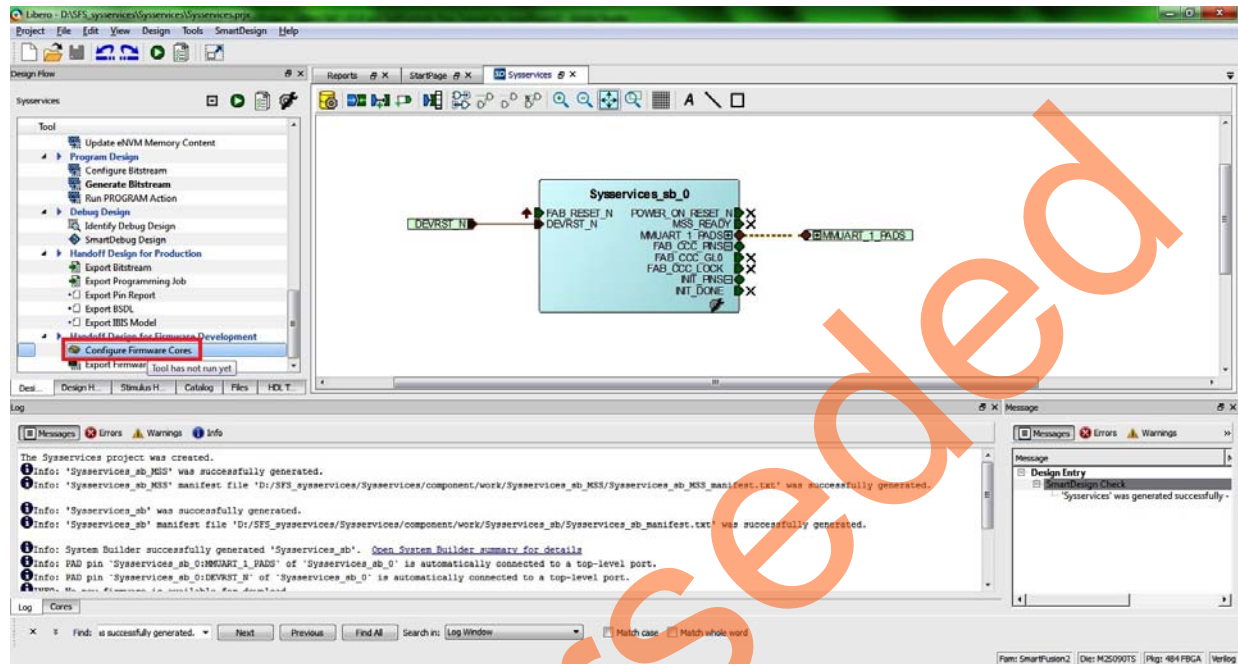

Figure 13 • Opening DESIGN\_FIRMWARE Window
1. In the **Design Flow** tab, double-click on **Configure Firmware Cores** under **Handoff design for Firmware Development**. This opens **DESIGN\_FIRMWARE** window as shown in Figure 13.